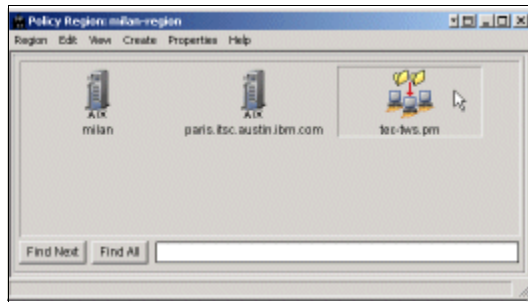

Figure 8-24 Opening the profile manager tec-tws.pm
7. Double-click the icon of the profile manager that you just created. In our environment for this book, we chose the tec-tws.pm icon as shown in Figure 8-24.